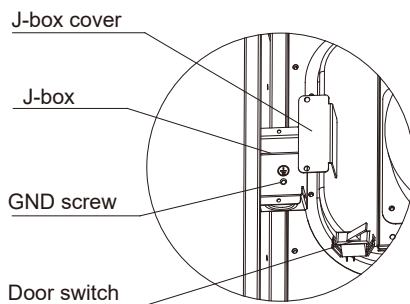
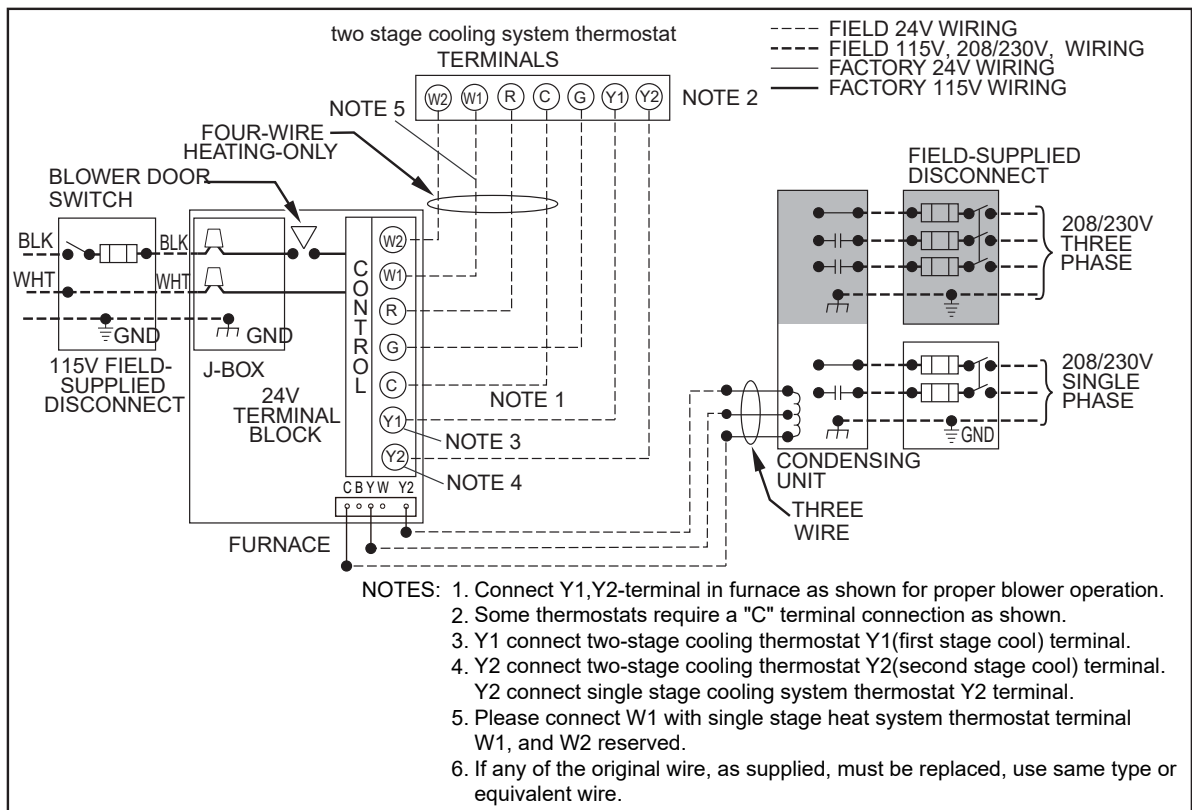

Fig. 9-1 J-box
Fig.9-3 Heating and Cooling Application Wiring Diagram with I-Stage Thermostat
1. Remove and save two screws holding J-Box. (See Fig. 9-1.)
See Fig. 9-1.
5. Connect line voltage leads as shown in Fig. 9-3.
Electrical Box on Furnace Casing Side. See Fig. 9-1 and Fig 9-3.
4. Remove and save two screws holding J-Box. (See Fig. 9-1.)
12. Complete electrical box wiring and installation. Connect line voltage leads as shown in Fig. 9-3. Use best practices (NEC in U.S. and CSA C22.1 in Canada) for wire bushings, strain relief, etc.
1. Maintain 115V wiring and ground. Improper polarity will result in rapid flashing LED and no furnace operation. (See Fig. 9-3)
2. Make thermostat wire connections at the 24-V terminal block on the furnace control. Failure to make proper connections will result in improper operation. (See Fig. 9-3.)
(See Fig. 9-3 for thermostat connections.)